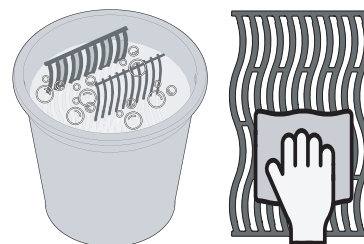

Fig. 3
- Wash grids by hand with water and mild dish soap to remove any residue from the manufacturing process. DO NOT wash in a dishwasher. (Fig. 3)